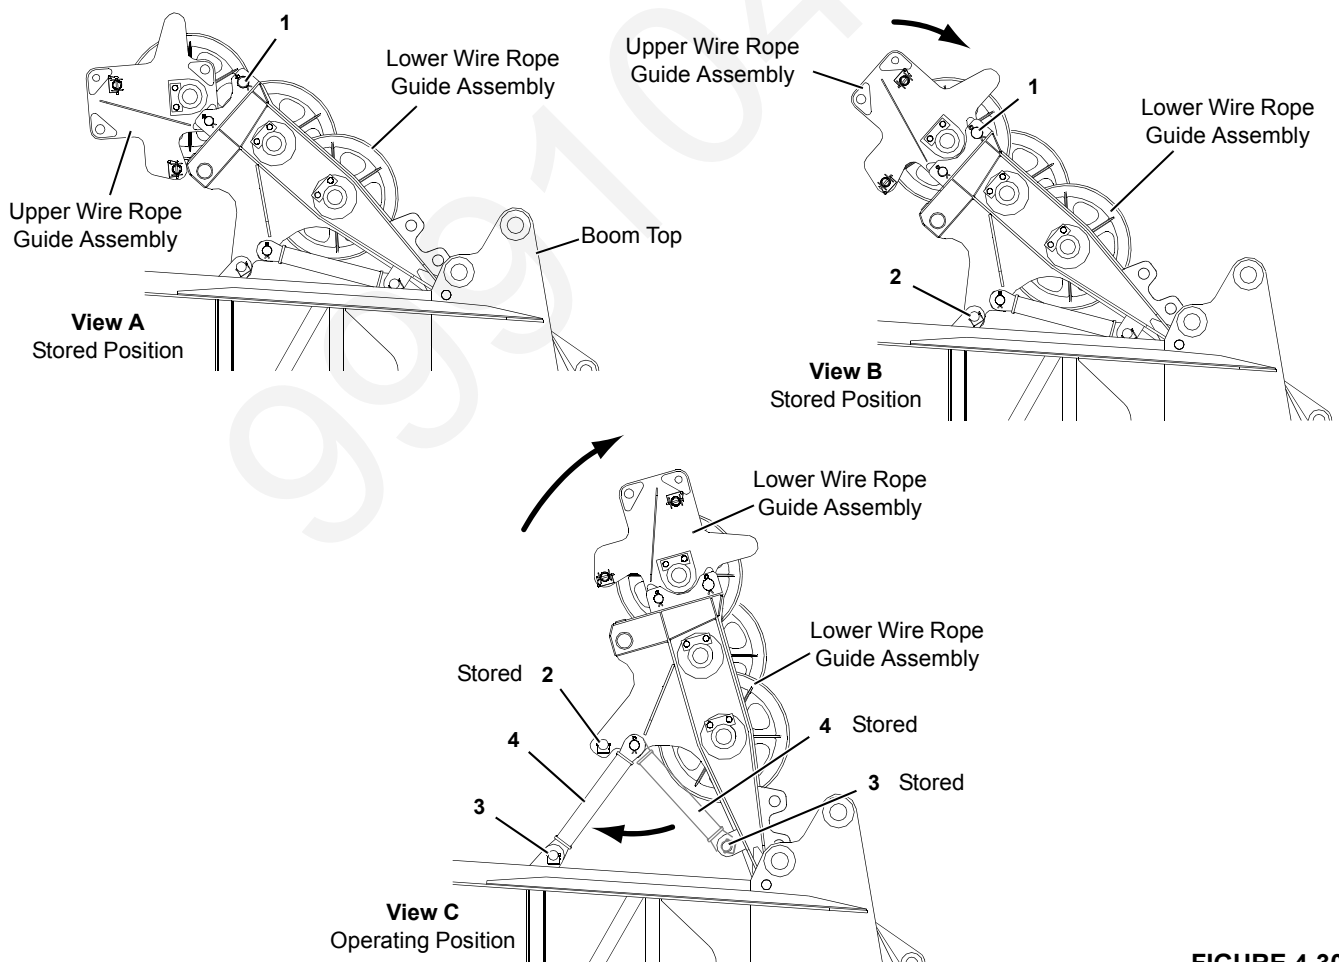

FIGURE 4-30
See Figure 4-30 for the following procedure.
- Store boom top wire rope guide as shown in Figure 4-30, View A.